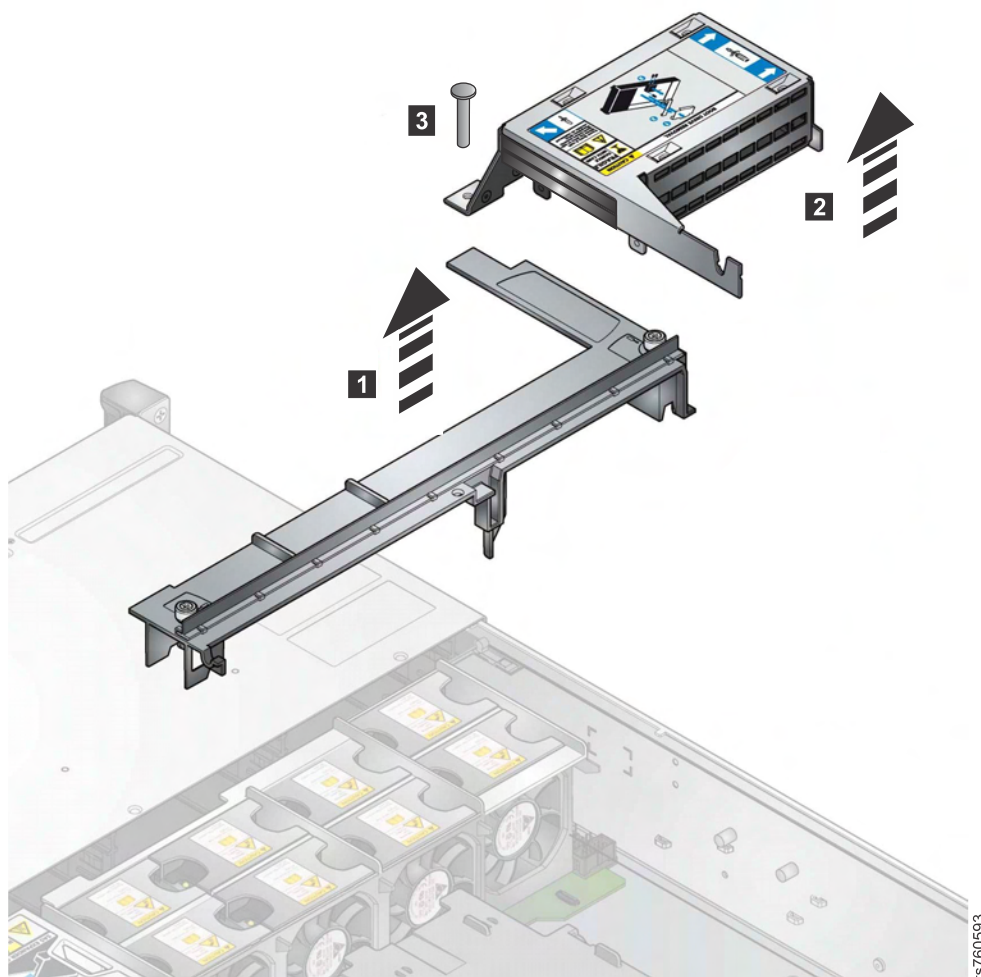

Figure 38. Boot Cage Assembly Retention Screw
- a. Refer to Figure 38 on page 61. Three mounting points hold the boot drive cage in place; a retention screw and two mounting points on the inside of the chassis. With a screwdriver, remove the single upright retention screw **3** from the boot drive cage. You might need to use pliers to hold the post stationary to unscrew the retention screw.
- b. Hold the boot cage and gently pull toward to the center of the chassis. Continue pulling until the boot drive assembly is free from the two mounting pins on the inside of the chassis. See Figure 38, which shows the boot drive assembly and the mounting pins. The boot drive assembly consists of a boot drive cage, two boot drives and a small backplane board.